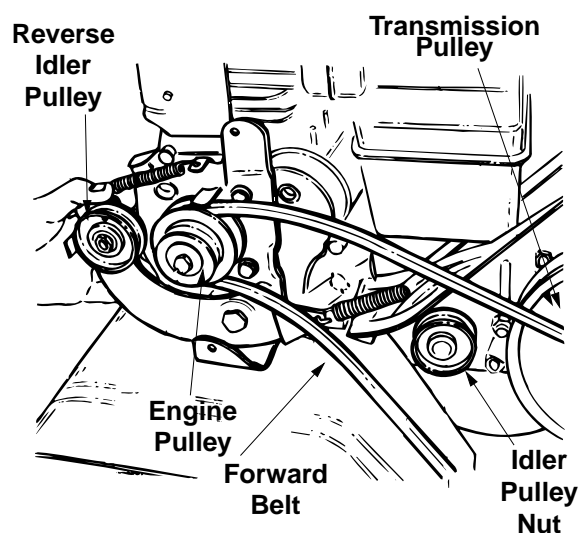

Figure 20 Model 390 Shown
3. Lift belt off the idler pulley and transmission pulley. See Figure 20.
5. Push reverse idler pulley bracket forward, and remove engine pulley and belt. See Figure 20.